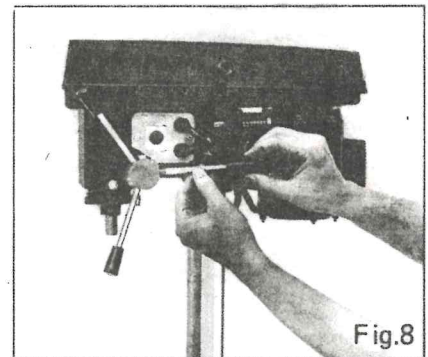

Fig. 8
* Screw knob on each feed handle, install them into hub of pinion shaft. Fig. 8.